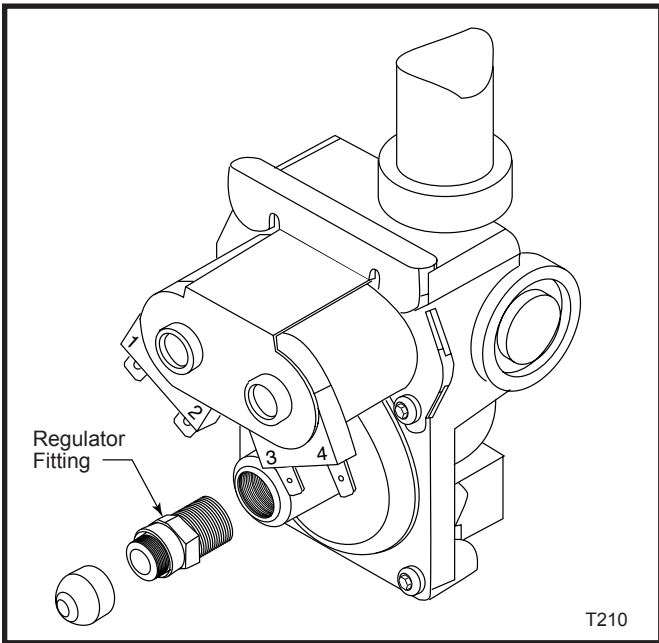

Fig. 44 White-Rodgers 25M18A-706PI gas control.
1. Remove plastic cap from regulator fitting. (Fig. 44) Unscrew fitting using a 7/16" wrench. Turn fitting over so end of fitting marked "LPG" (red) screws into valve. Tighten fitting (snug only). Replace plastic cap.